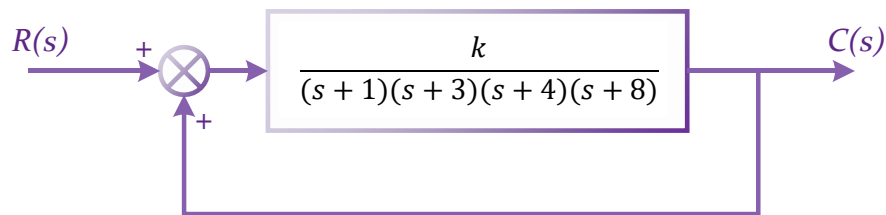

Figure 2.2
2.2 Consider the unity feedback system of Figure 2.2, Use MATLAB to do the following for this system: